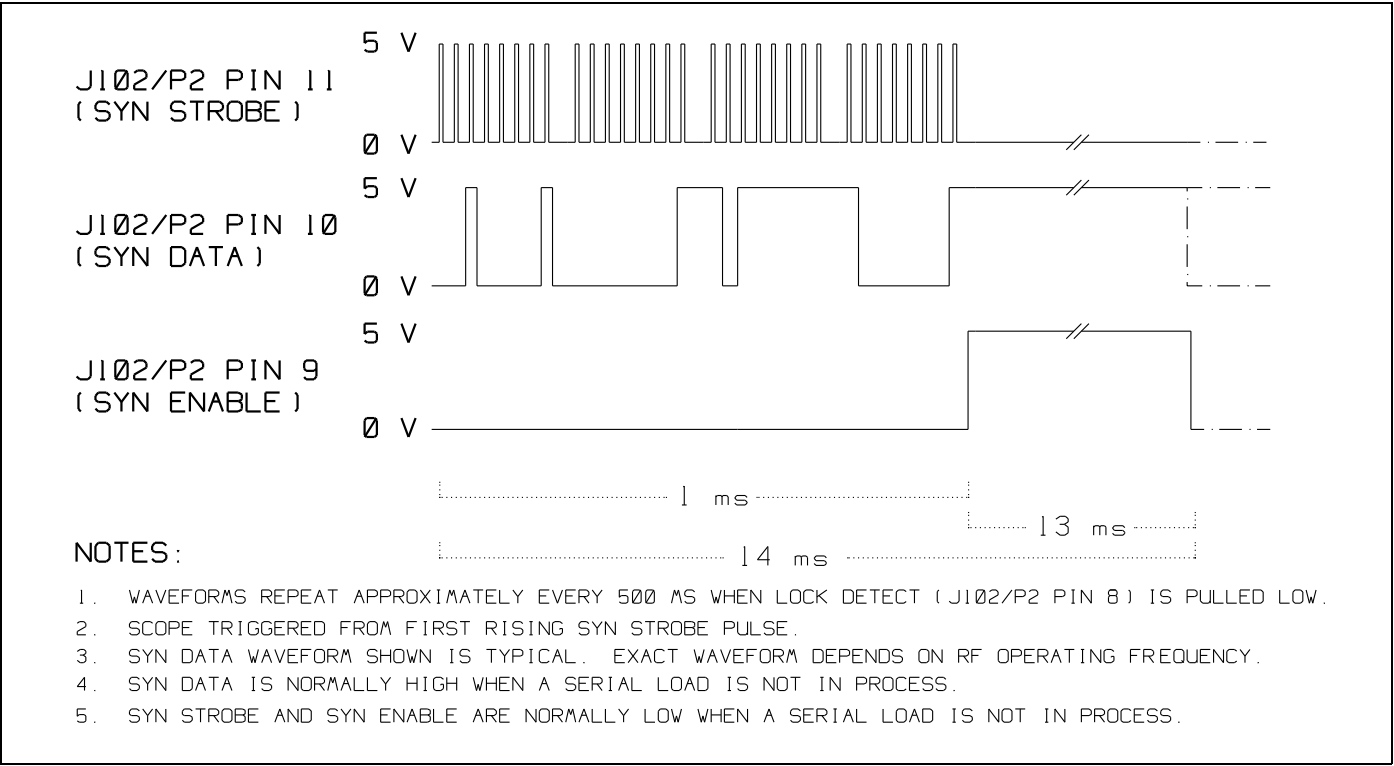

Figure 3 - Synthesizer Load Pulses
3. Monitor the synthesizer load pulses (J102/P2 pins 9, 10 and 11) for pulse activity when a channel is changed. See Figure 3. If these signals are not present, suspect a defective I/O Microcontroller. A failure of only one signal points to an open series resistor on the Control Board or a defective output from U7. NOTE: Tempo-